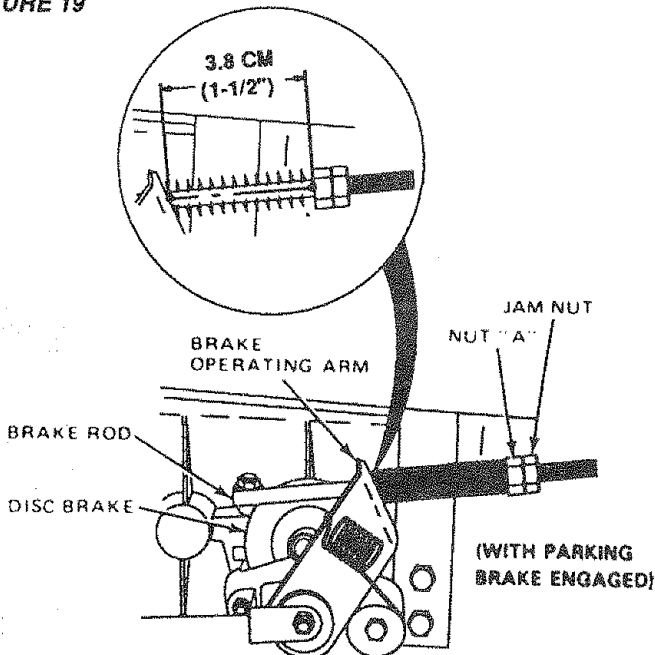

FIGURE 20
This Tractor is equipped with an adjustable brake system mounted on the right side of the transaxle (Fig. 20).
- If distance is other than 3.8 cm (1-1/2"), loosen jam nut (Fig. 20) and turn nut until distance becomes 3.8 cm (1-1/2"). Retighten jam nut against nut "A".